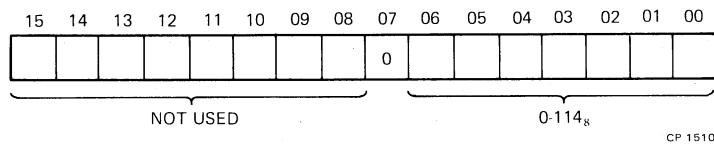

Figure 4-26 RX2TA Format (RX211/RXV21)
4.3.2.3 RX2TA – RX Track Address (Figure 4-26) – This register is loaded to indicate on which of the 114_8 ($0-76_{10}$) tracks a given function is to operate. It can be addressed only under the protocol of the function in progress (Paragraph 4.3.3). Bits 8-15 are unused and are ignored by the control.